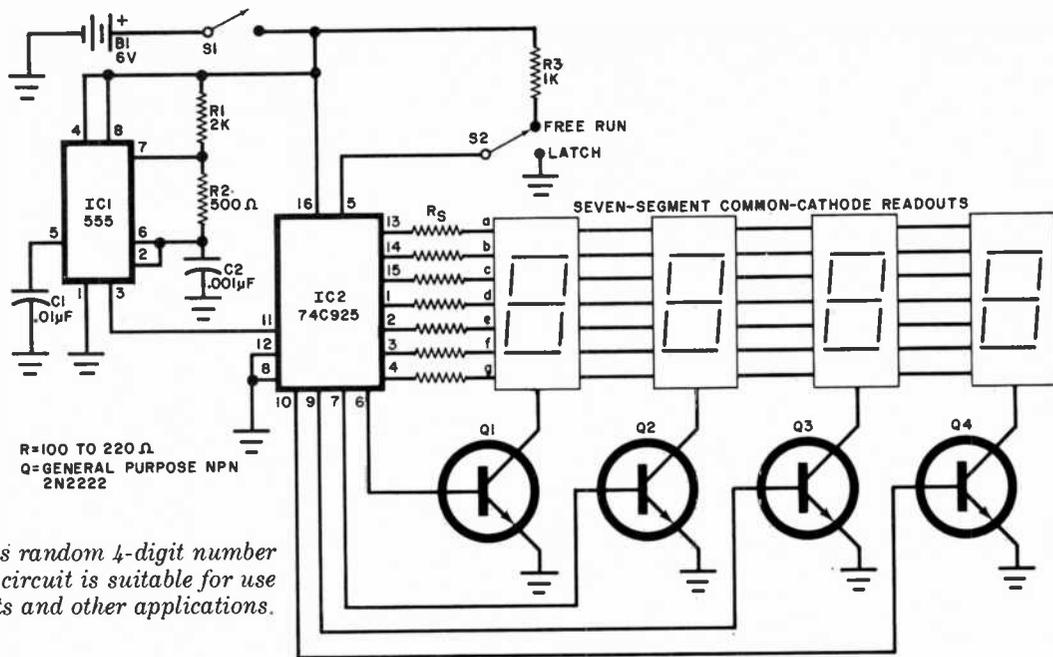

Fig. 5. This random 4-digit number generator circuit is suitable for use in games, experiments and other applications.
**Reader's Circuit.** Suitable for use in games, ESP experiments, and other applications, the random 4-digit number generator circuit illustrated in Fig. 5 was submitted by reader Michael S. Pyska (934 Seneca St., Lewiston, NY 14092). Requiring relatively few components, the design should be a good single evening's or weekend's project for